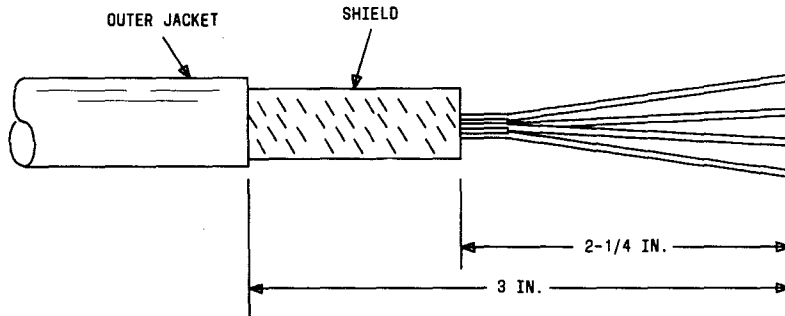

Fig. 2—Preparation of Wire for Service Wire Closures
- 3.01** Prepare service wire as shown in Fig. 2.